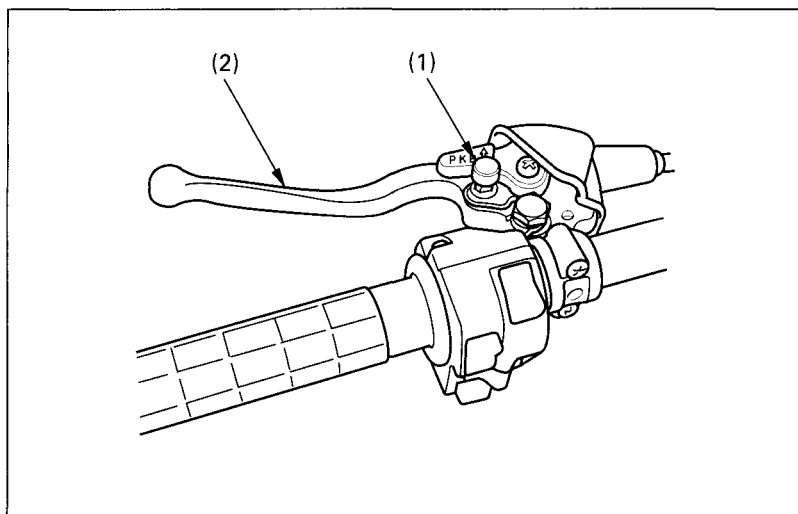

Fig. 2-12 (1) Reverse selector knob (2) Rear brake lever
The reverse selector knob (Fig. 2-12) (1) is on the rear brake lever.